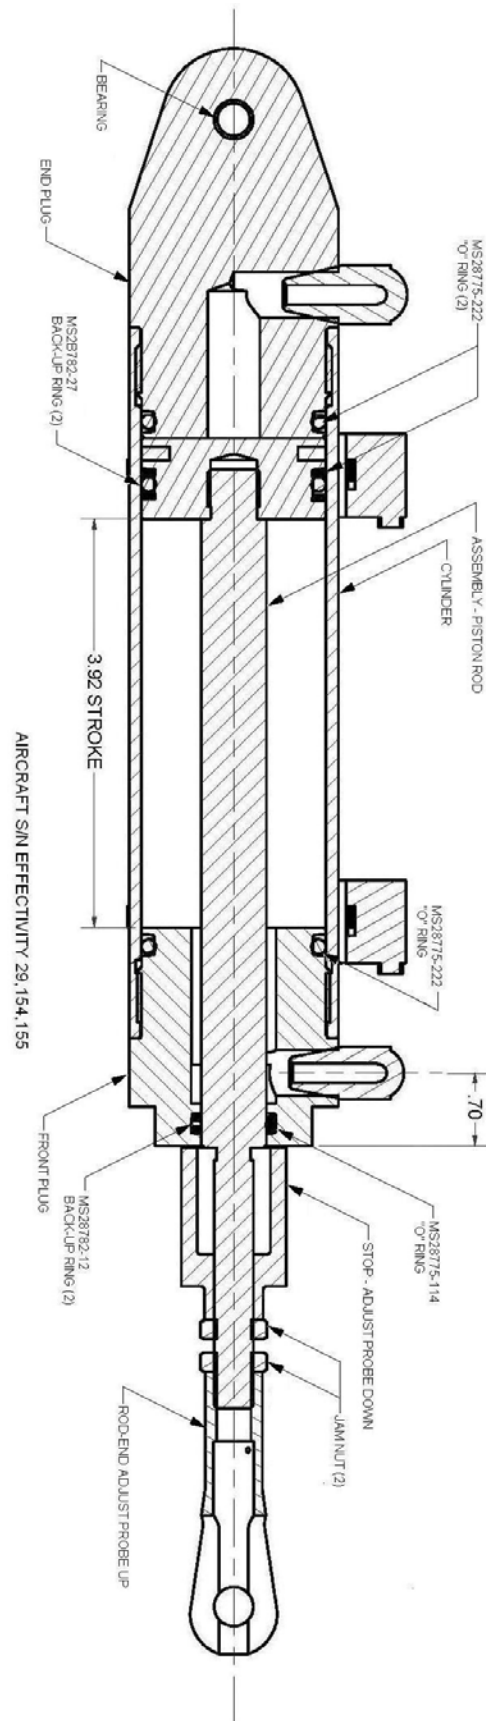

FIGURE 4.2
The lower probe assembly is set at the factory for full open and close positions. Any adjustment necessary to the probe is accomplished by adjusting the probe jack cylinder. Figure 4.2 shows a cross section of the cylinder. Remove hydraulic lines before adjusting. The adjustment for probe full open is the large bushing on the cylinder shaft. Loosen the jamb nut and adjust so lower probe seats firmly on upper scoop jamb and not loose. Bushing to bottom out on cylinder body at same time probe seats firmly on jamb. The cylinder shaft rod end adjusts the up stop. Loosen the jamb nut and turn rod end. The piston to be bottomed out inside the cylinder is when the scoop is above the lower most part of the main keel by approximately 1/8". After adjustment reconnect hydraulic lines and cycle probe for proper operation. Check if probe up and down position lights are operating properly.
Figure 4.2 shows a cross section of the hydraulic probe cylinder. Replace “O” rings if cylinder shows signs of leaking. A gasket is between upper probe and internal tube at connecting clamp. Replace if necessary. Check condition of connecting hose and clamps above float deck (2) each side. Inside of aircraft tank on each inlet tube there is a rubber flapper valve or a platypus type valve. Check if valve is closing tight and condition of valve. Replace if necessary.